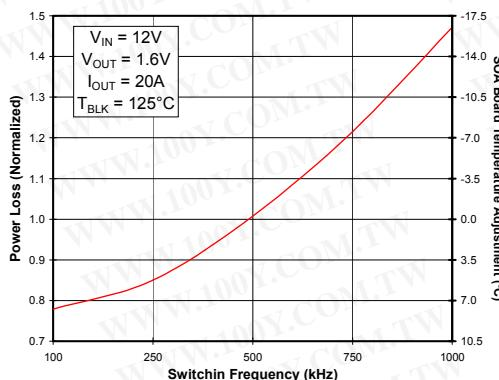

Fig 5. Normalized Power Loss vs. Frequency
- (Fig. 5) Normalized power loss for frequency ≈ 1.225
- (Fig. 5) Normalized SOA PCB Temperature for frequency $\approx -7.5^{\circ}C$